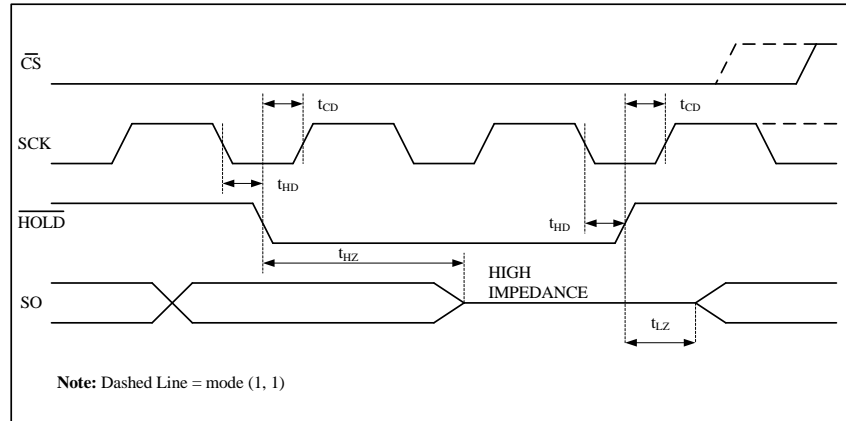

Figure 13
The $\overline{\text{HOLD}}$ input can be used to pause communication between host and 25M01. To pause, $\overline{\text{HOLD}}$ must be taken low while SCK is low (Figure 13). During the hold condition the device must remain selected ($\overline{\text{CS}}$ low). During the pause, the data output pin (SO) is tri-stated (high impedance) and SI transitions are ignored. To resume communication, $\overline{\text{HOLD}}$ must be taken high while SCK is low.